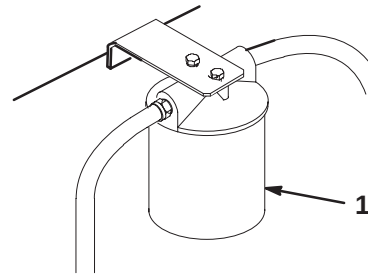

Figure 49
3. Place drain pan under filter, remove the old filter and wipe the filter adapter gasket surface clean (Fig. 49).